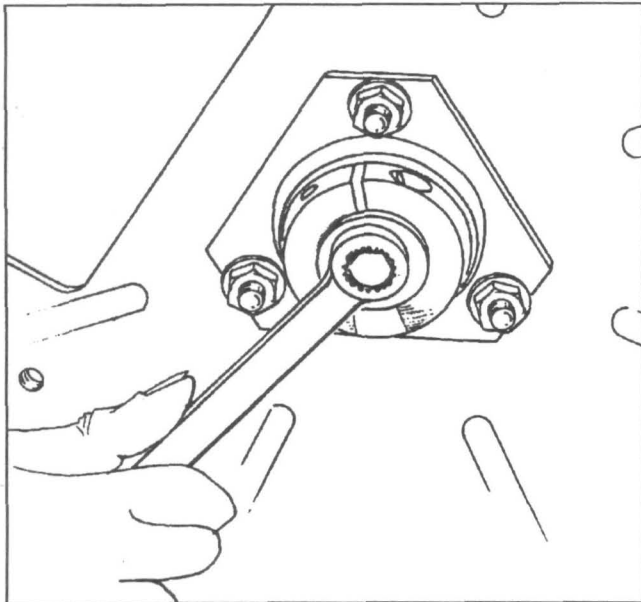

Fig. 29
Replace the broom handle or stick down through the cylinder assembly. Using a $\frac{9}{16}$ " wrench, tighten the screw in the chipper side end of the cylinder shaft *very securely*. Then, loosen the screw one (1) full turn. See Fig 29.
Return to the screw in the end of the cylinder shaft (see Fig. 29) and tighten it *very securely*.